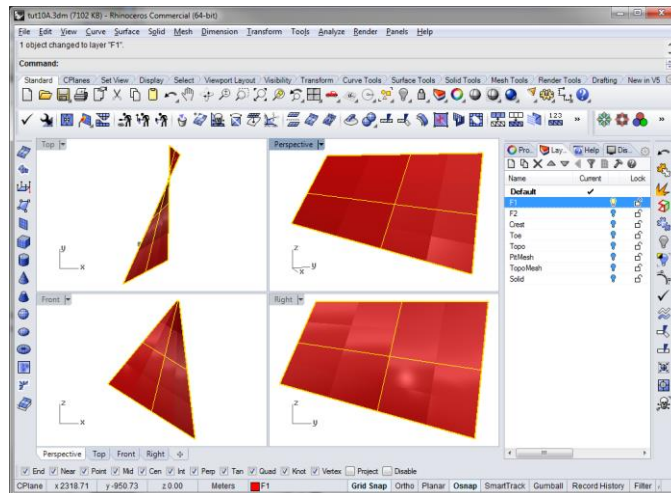

Figure 159: Lofted surface placed into layer F1.
2. Select **Straight Section** for the **Style** and **Do not simplify** for Cross-section curve options. If your lofted fault plane has a twist in it, select **Align Curves** and follow the prompt. Click **OK**. **Edit|Select Objects|Curves**, then **<DELETE>** the two lines. Select the surface, then **ChangeLayer** and place the selected surface in layer **F1** (Figure 159).